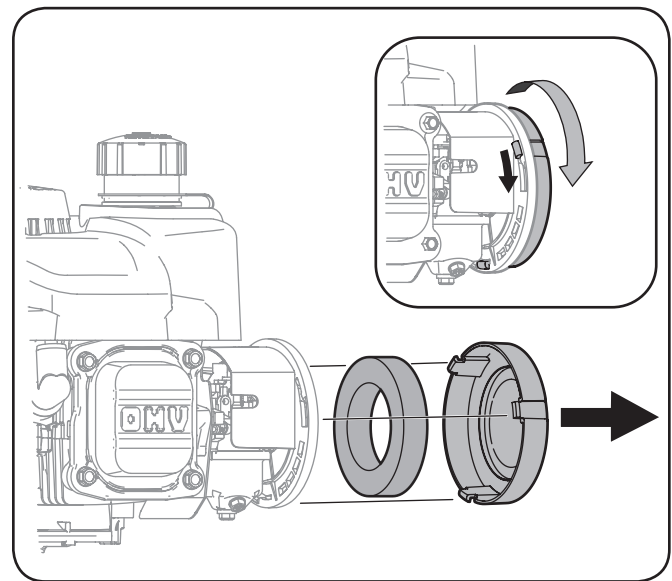

Figure 6-2
1. Remove the air filter cover by turning counter-clockwise then pulling it towards you. See Figure 6-2. Clean foam element or replace when damaged.